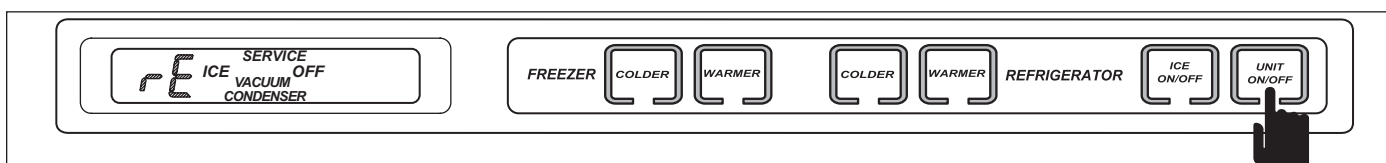

Figure 3-36. Press UNIT ON/OFF Key to Display Location of Thermistor
2. Press the UNIT ON/OFF key at this time to determine which thermistor is faulty or line separated. (In this example, the refrigerator evaporator thermistor is faulty.) (See Figure 3-36)